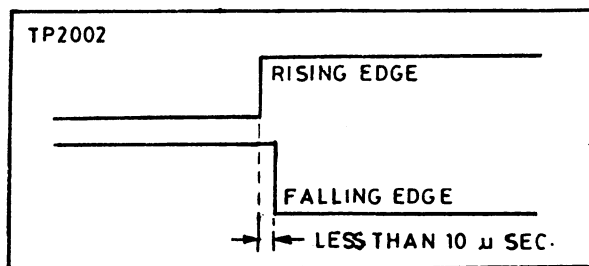

Fig. 11.8 Switching edge difference
5. Now switch the slope selector on the slope to either (+) or (-) and adjust R 2012 or R 2014 for less than $10 \mu \text{ sec}$ difference as shown in fig. 11.8.